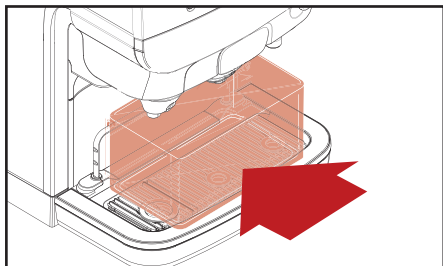

Fig. 5.7 - Place container
8. Place the container (fig. 5.7) under the product outlets and press  to start flushing.